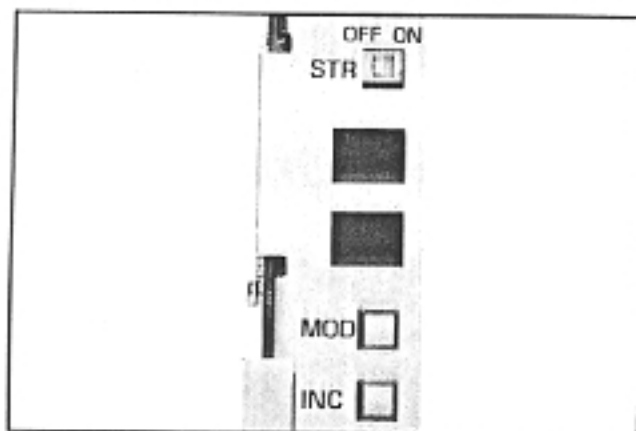

FIGURE 44—MSMU FACEPLATE
09.24 The MSMU faceplate is equipped with three switches and two LED displays (Figure 44). Looking from top to bottom; the functions of the switches are as follows: